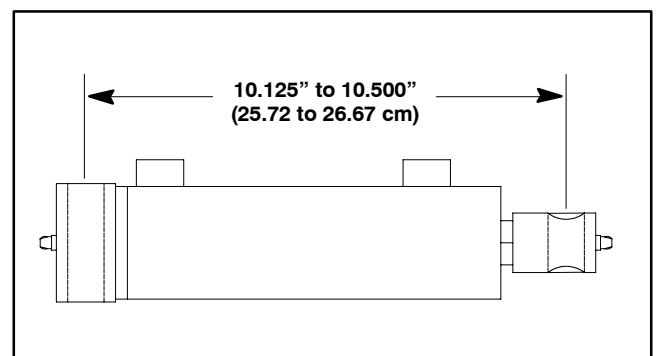

Figure 67
7. If clevis was removed from cylinder shaft, fully retract cylinder shaft and thread jam nut and clevis onto shaft. Adjust center to center length to dimension shown in Figure 67 before tightening jam nut.